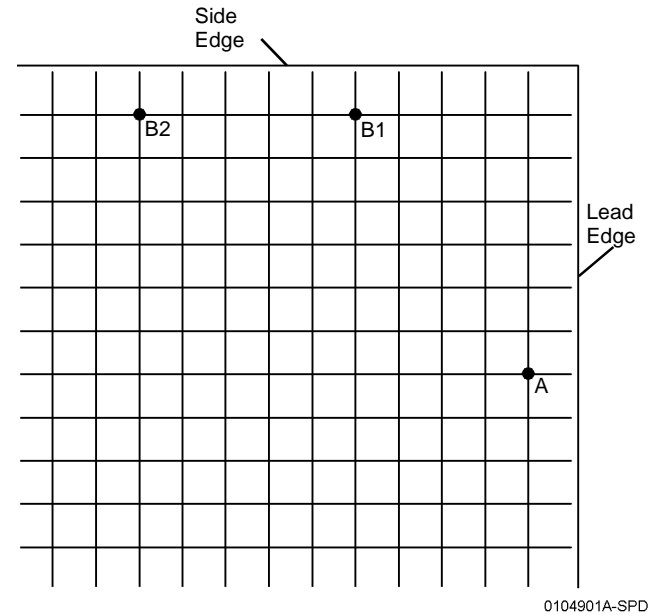

Figure 2 Measurement Point A and Points B1 and B2
6. Measure the Lead Edge Registration (Figure 2).
- For paper larger than letter size: from the intersection between the 1st line from the side top edge and the 10th line from the lead edge of the paper (point 'B2' on Figure 2).
- For paper letter size (A4/8.5 x 11) or smaller: from the intersection between the 1st line from the side top edge and the 5th line from the lead edge of the paper (point 'B1' on Figure 2).